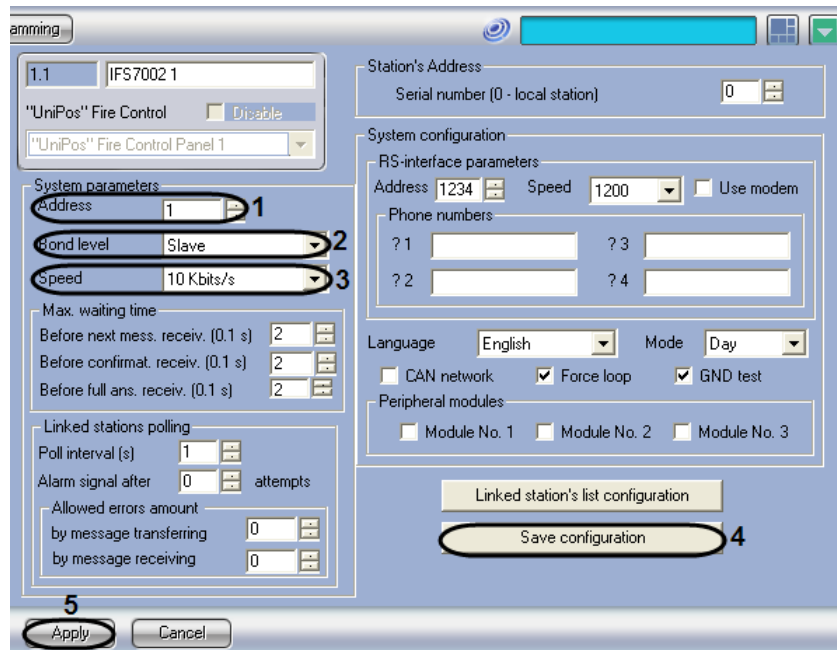

Fig. 3.3—4 Configuring the system parameters of the IFS7002 Fire Control Panels
1. Go to the settings panel of the “IFS7002” object (Fig. 3.3—4).
2. Enter the CAN network address of the FCP into the “Address” field (see Fig. 3.3—4, 1).
3. From the “Bond level” drop-down list select the preferred communication level of the FCP in the CAN network of the parent Unipos FSA (see Fig. 3.3—4, 2).